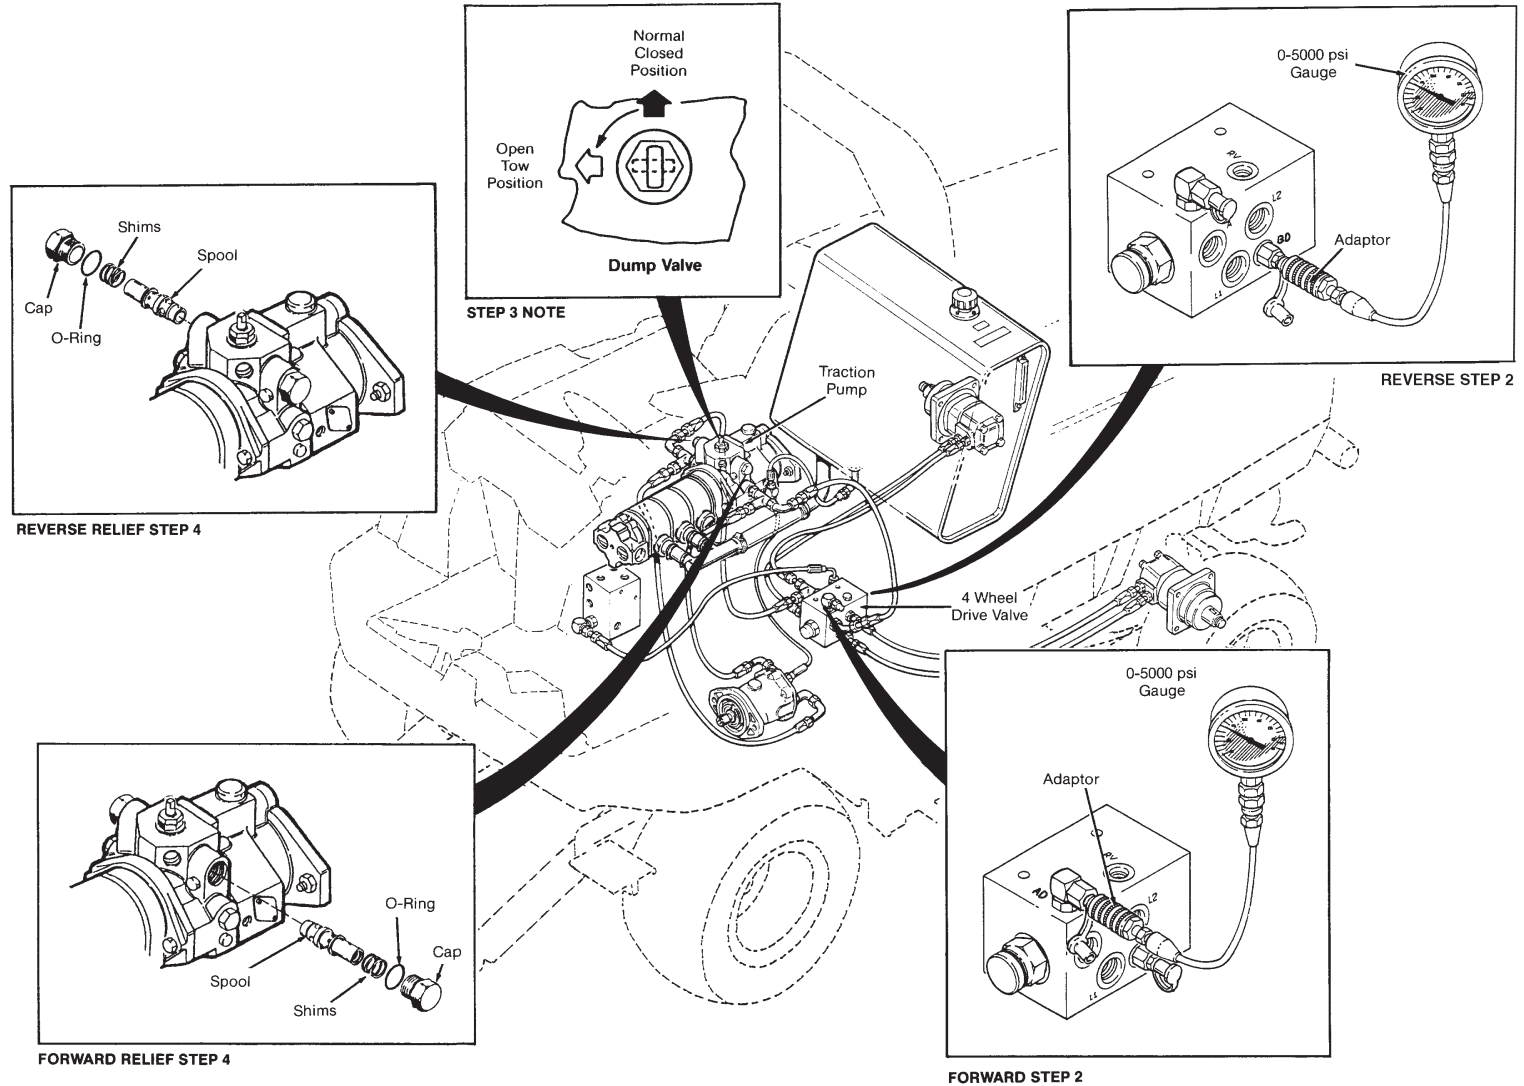

Figure 8R-5. Traction System Relief
Reverse (See Figure 8R-5)
Be sure dump valve is in the FORWARD position (see Figure 8R-5).
- If the forward relief valve test failed and the reverse relief valve test was okay, replace spring and/or relief spool on the left side of traction pump (see Figure 8R-5, Forward).
- If only the reverse relief valve test failed, replace spring and/or relief spool on the right side of traction pump (see Figure 8R-5, Reverse).
Relief Valve Test (See Figure 8R-6)